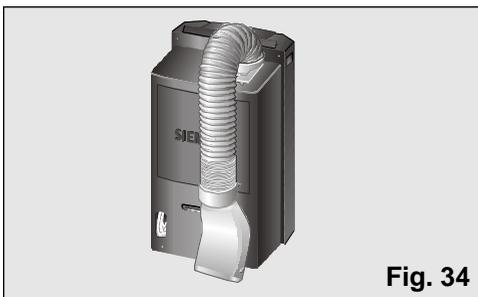

Fig. 34
- To do this, bend the tube towards the back of the appliance and secure it with the diffusion hook. **Figs. 34 and 35.**